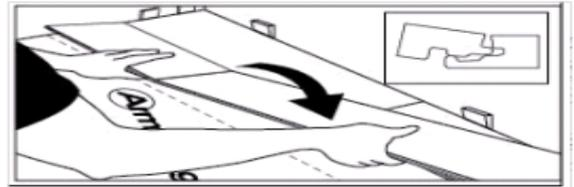

Fig. 12
11. Continue installing full boards in the second row by angling the short end of the next board in the row to lock into the previous board (Fig. 12). Position the board so that the long side of the board is close to boards in the previous row and overlapping the groove of the boards in the previous row.